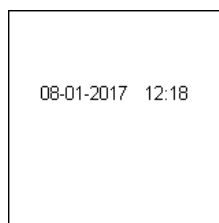

Fig.5
2. While still in this display (Fig.4), press the  and hold for about 3 seconds, there is a long beep sound which indicates Date and Time setting adjustment. The display will change and show as in Fig.5 below.